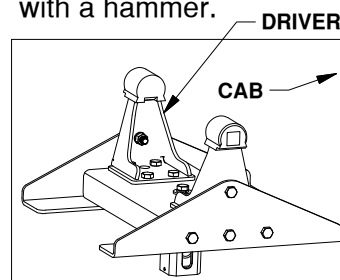
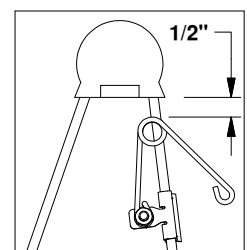

Figure C3: Base View.
Figure C4: Driver side pivot arm. **PAGE 2 of 4**
2. **Attach kit.** Locate the flange which will be closest to the truck cab on the driver side pivot arm, see Figure C3. The clip should be placed so that when the spring's coil is in the line with the edge of the arm there will be 1/2" of clearance between the bottom of the polyurethane bushing and the top of the spring, see Figure C4. Drive the clip securely onto the flange with a hammer.